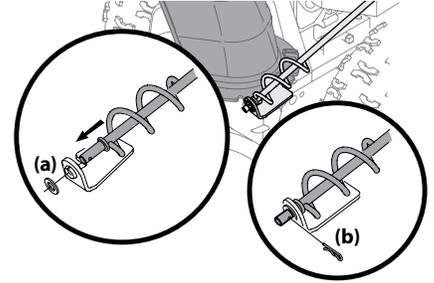

Figure 2-11
3. Remove plastic cap (if present), flat washer (a) and hairpin clip (b) from end of chute directional control assembly. See Figure 2-11.